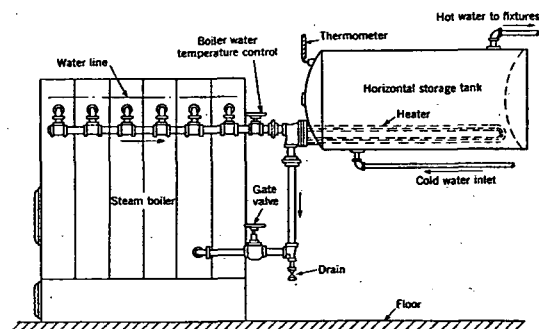

FIG. 8. HOT WATER HEATING COIL SUBMERGED IN STORAGE TANK
2. Submerged water heating coil in storage tank. (Fig. 8).
Pipe sizes between the water heater and boiler should be full size of the heater tapings (Table 12). When a heater is connected to a horizontal sectional boiler, it is recommended that connections be made to all sections and joined together a few inches below the water line as shown in Fig. 8, so that steaming is prevented in those sections which are not connected to the header.